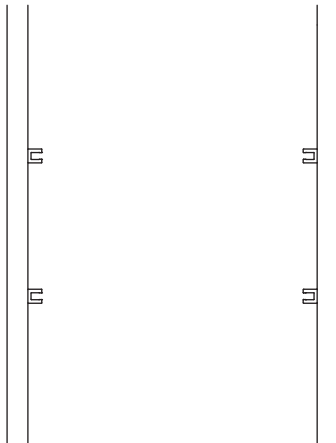

Fig. 13 图 13
- B. These screws allow you to plumb the door as shown in Fig. 13.